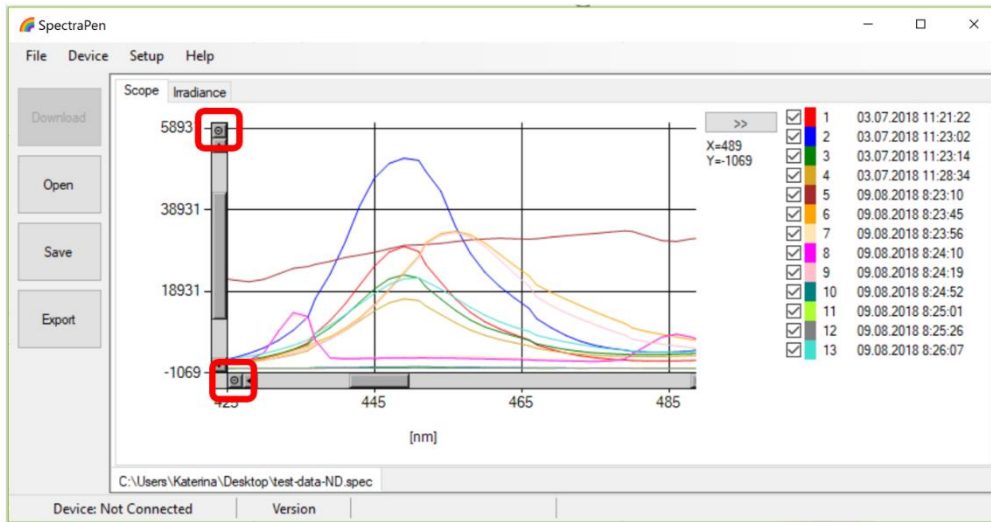

Fig. 31 Zoom function.
- To **zoom in on the data displayed in the graph** select an area of the displayed graph (Fig. 31). To reverse these steps and return to original display use minus icon in the corners of the zoom area marked with red rectangles in Fig. 31.